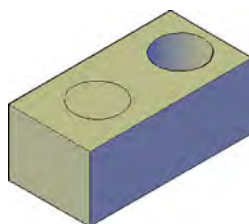

FIGURE 25.18
Step 2. You are prompted for a base point to copy *from* and a second point to copy *to*. However, you have to be careful in how you apply this command. If you copy the extruded hole, the new hole is not a solid and cannot be subtracted. What you get is shown in Figure 25.18.